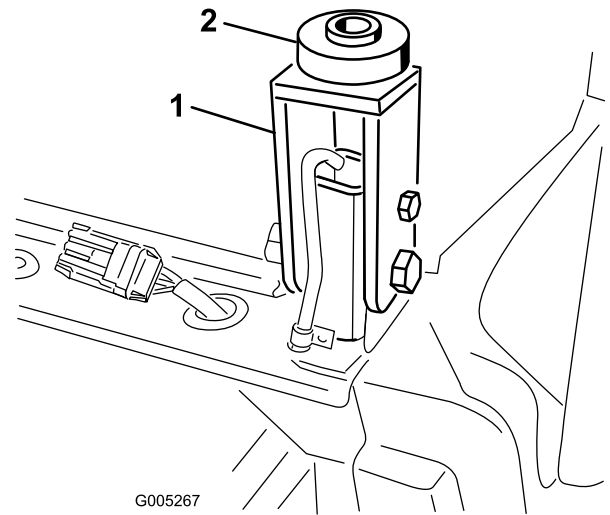

Figure 40
9. Insert a rubber mount onto each cab mount at the rear mounting locations (Figure 40).